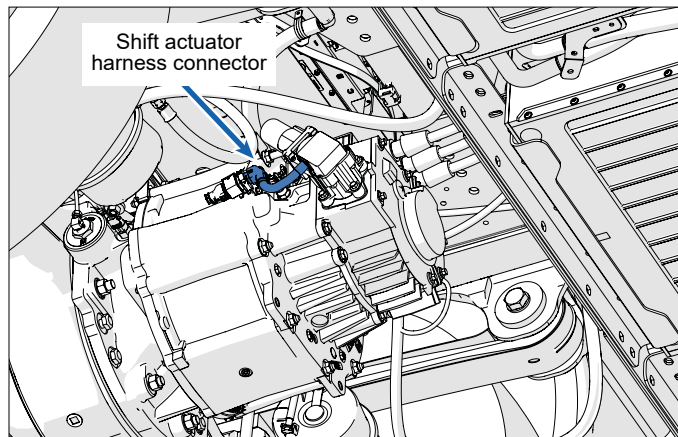

Figure 4 - Shift actuator wiring harness
1. Cut the zip tie and disconnect the shift actuator connector from the differential carrier wiring harness (**Figure 4**).